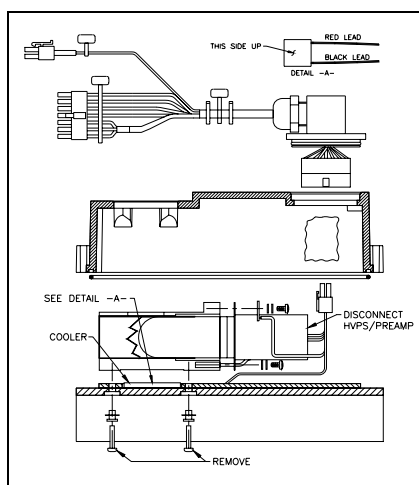

Figure 21. Cooler Replacement
4. Disconnect the HVPS/Preamp from the PMT and remove the PMT from its housing. Refer to Figure 21.
5. From the underside of the heatsink, remove the two screws that secure the PMT cold block to the heatsink and remove the cold block. Refer to Figure 21.